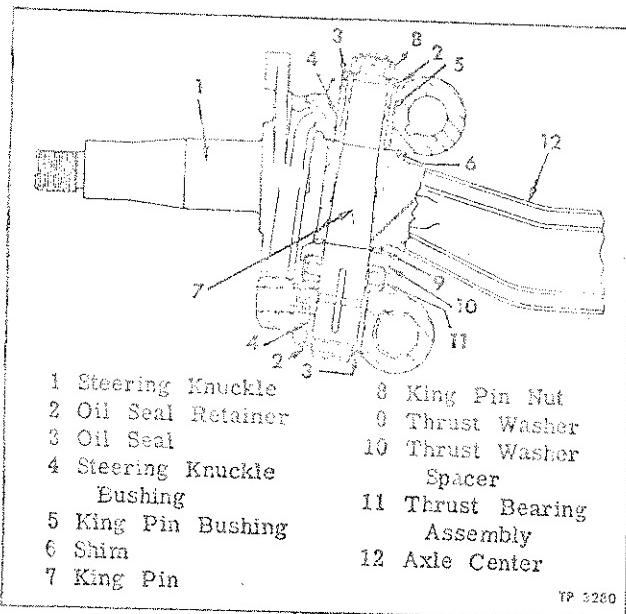

Figure 1—Steering Knuckle
Steering knuckles are provided with large thrust bearings between steering knuckle lower yoke and lower face of front axle I-beam, as shown in figure 1. Since these thrust bearings take vertical thrust loads, up and down movement of steering knuckle on axle center must be kept within proper limits to prevent pounding and consequent breakage of thrust bearings. Use of shims for correcting excessive up and down movement is described later under "Steering Knuckle Installation" in this section.
As illustrated in figure 1, bushings are used at upper and lower ends of steering knuckles.
REMOVAL (Fig. 1)
When installing steering knuckle, always check up and down movement of knuckle and install shims at top of I-beam if necessary. Install steering knuckles and king pins in the following manner: Key numbers in text refer to figure 1.
1. Press king pin bushing (5) onto king pin (7), making sure bushing is properly aligned with king pin.
2. With steering knuckle (1) in position on axle center (12), install thrust bearing assembly (11), thrust washer spacer (10), and thrust washer (9), as shown in figure 1.
3. Raise knuckle with jack slightly so that weight of front end will rest on thrust bearing and check clearance between top of I-beam and knuckle yoke. Clearance greater than shown in "Specifications," at end of this section should be corrected by installing a shim (6), of suitable thickness, at top of axle center. Shim thicknesses available are given in "Specifications".